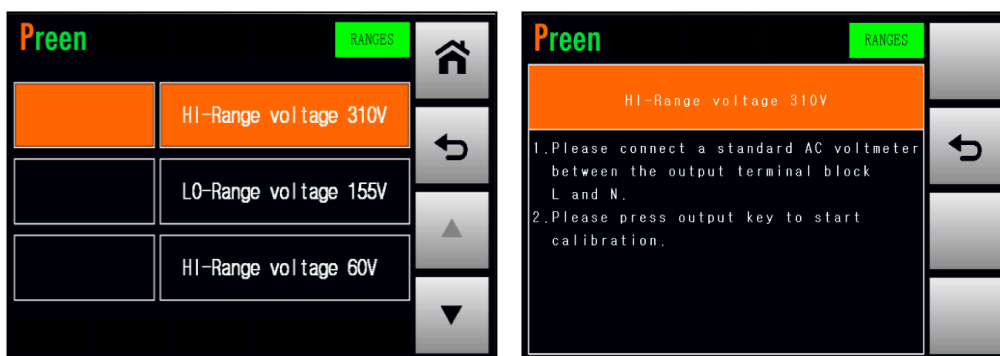

Figure 4.5 Enter the page which calibrates the HI-Range voltage 310V
1. Press the item HI-Range voltage 310V repeatedly to enter the page which calibrates the HI-Range voltage 310V (refer to Figure 4.5).